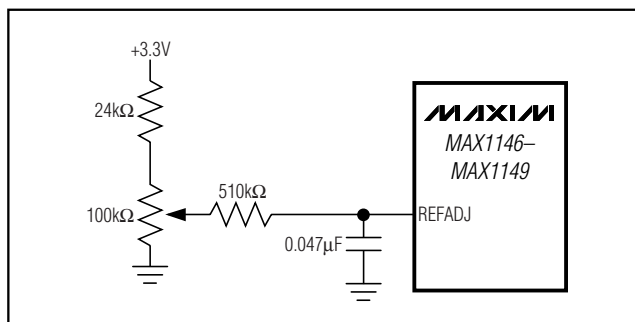

Figure 13. Reference Adjust Circuit
- 2) Utilize the internal reference buffer by applying an external reference to  $\text{REFADJ}$  (Figure 13).